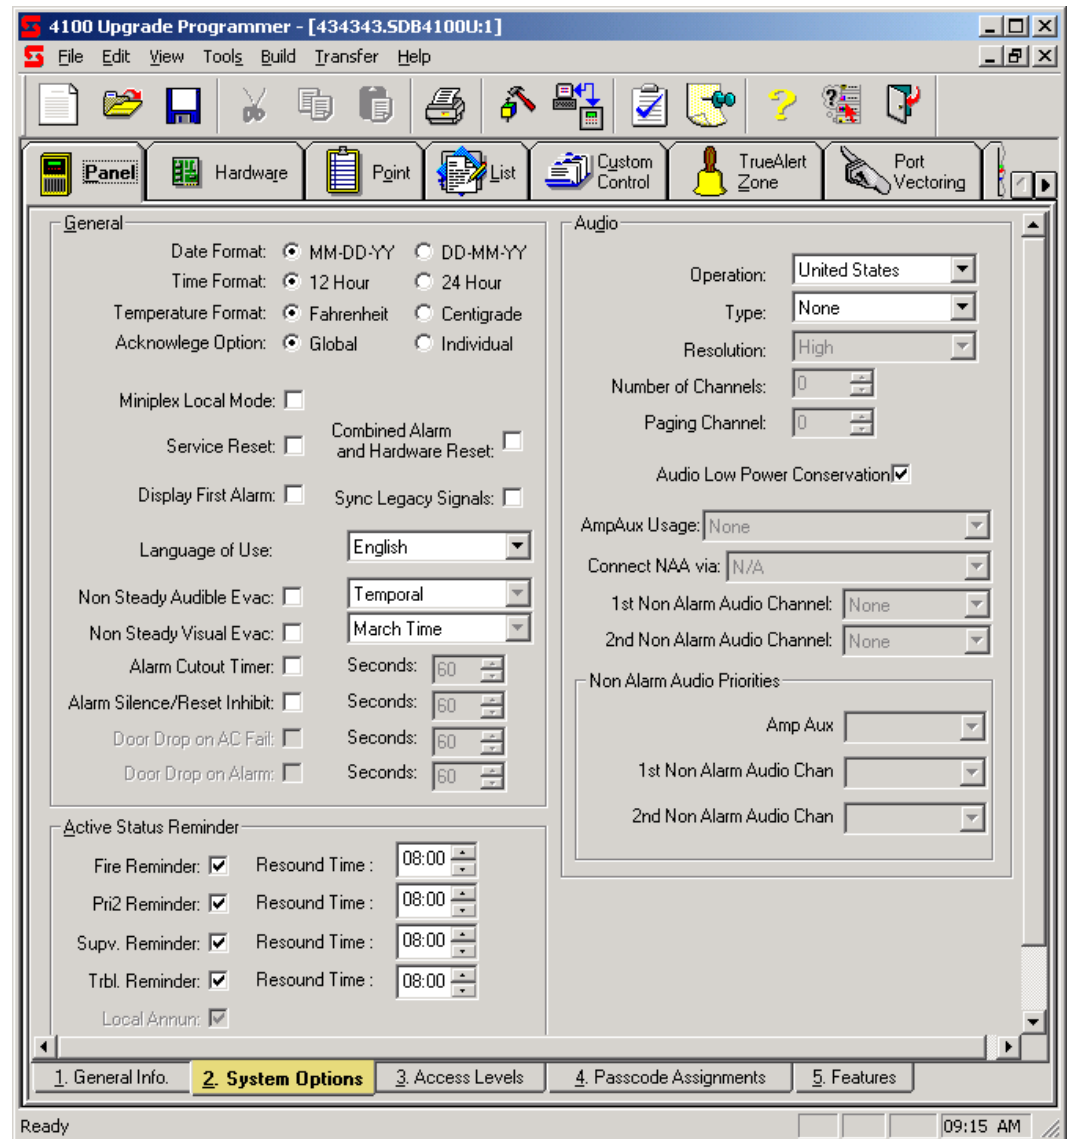

Figure 4-2. System Options
1. Click on the Panel tab at the top of the programmer. Click on the System Options tab at the bottom of the programmer. A screen similar to the one shown in Figure 4-2 appears.